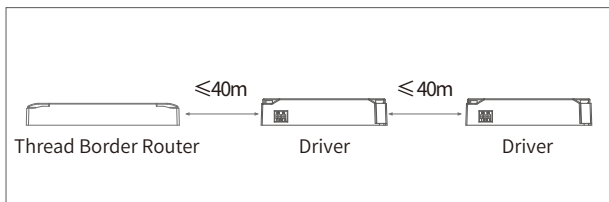

Figure 1
- The distance between driver should not exceed 40 meters; if there are partitions in between, the distance may be shortened, as shown in Figure 1.